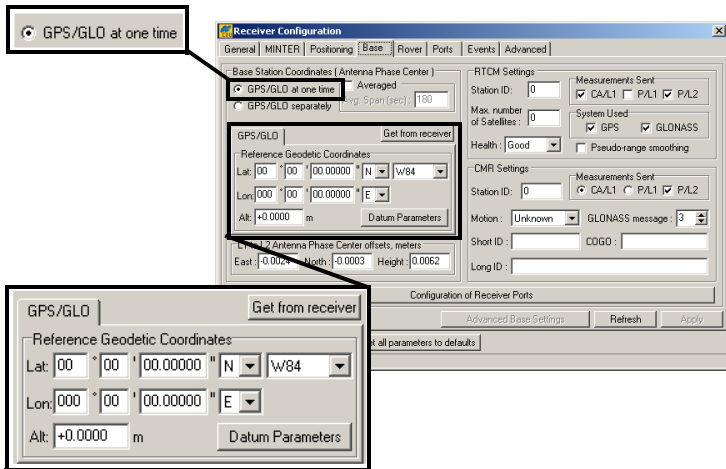

Figure 3-25. Base Configuration
9. For the Base receiver, click the *Base* tab, and set the following parameters (Figure 3-25 on page 3-31), then click **Apply**.